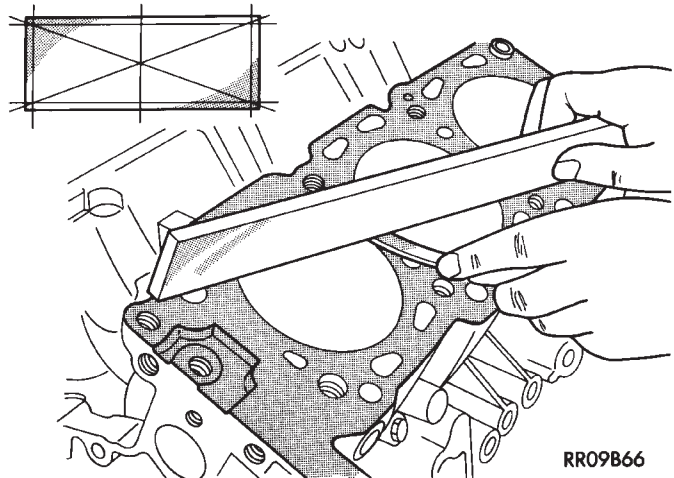

Fig. 16 Distortion Check
(1) Clean cylinder block and check top surface for distortion with a straight edge and thickness gauge (Fig. 16).
(2) Top surface must be flat within: